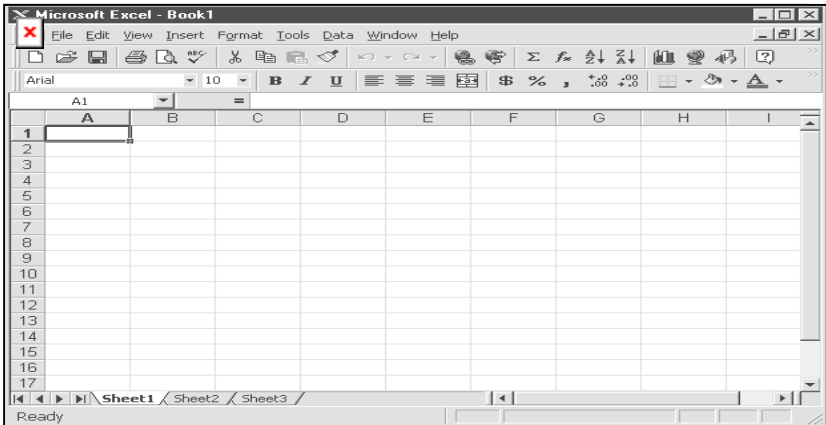

Figure C-1 Excel Window
1. Export the event data to a tab delimited text file, as described in Section 5.6.6: **Export the displayed data to a text file**. Assume we have just export the event data to a file called TextEvent.txt in C:. To convert that file to a MS-Excel file, open the MS-Excel software, as shown in Figure C-1.